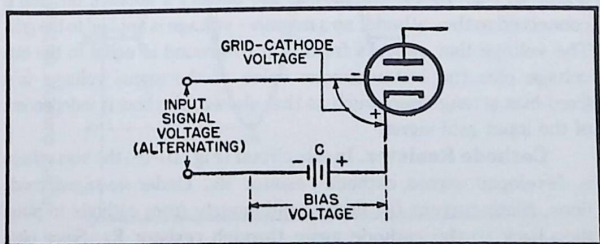

Fig. 10-14. Bias voltage representation.
The signal voltage normally applied to a control grid is alternating; at least it is a voltage that varies in amplitude and, perhaps, in polarity relative to the cathode. During the time that it is negative with respect to the cathode, freedom from grid current is obvious. But when it is positive, grid current is present unless some means is provided to keep the control grid at a negative potential during the positive portion of the input signal. The purpose of the negative grid bias is to establish this operating condition. Bias may be defined as the DC voltage between the grid and the cathode. It is represented by battery C in Fig. 10-14. The total voltage existing between grid and cathode is the signal voltage plus the bias voltage.
Battery. Bias is the DC voltage applied between grid and cathode of a vacuum tube. A battery (C) that supplies this bias is shown in Fig. 10-14. As shown, the battery's positive terminal is connected to the cathode, so a negative voltage is applied to the grid. The voltage that appears from grid to ground is equal to the bias voltage plus the instantaneous value of the signal voltage. In a fixed-bias arrangement such as that shown, the bias is independent of the input grid signal.